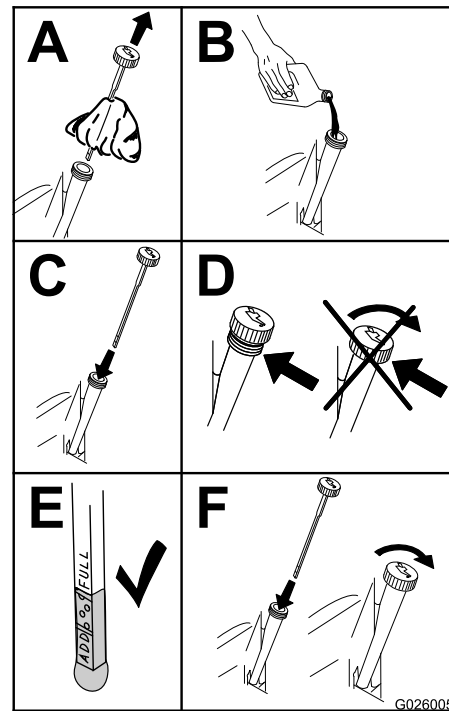

Figure 32
4. Slowly pour approximately 80% of the specified oil into the filler tube, and slowly add the additional oil to bring it to the **Full** mark (Figure 32).